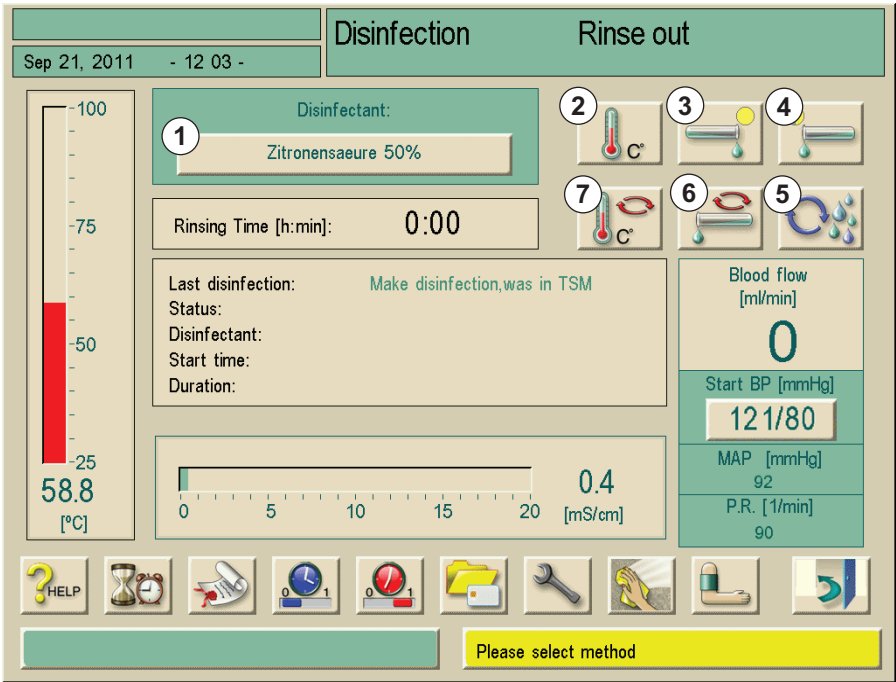

Fig. 12-1 Selection of disinfection program
1. Touch icon in Disinfection mode (see Fig. 12-1 Selection of disinfection program (225))